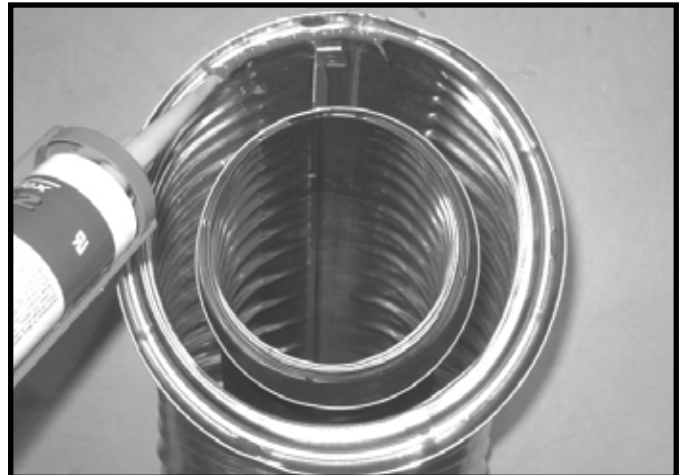

Figure 10.1 High Temperature Silicone Sealant
- Apply a bead of silicone sealant inside the female outer pipe joint prior to joining sections. See Figure 10.1
- Apply a bead of silicone sealant inside the female outer pipe joint prior to joining sections. See Figure 10.1.